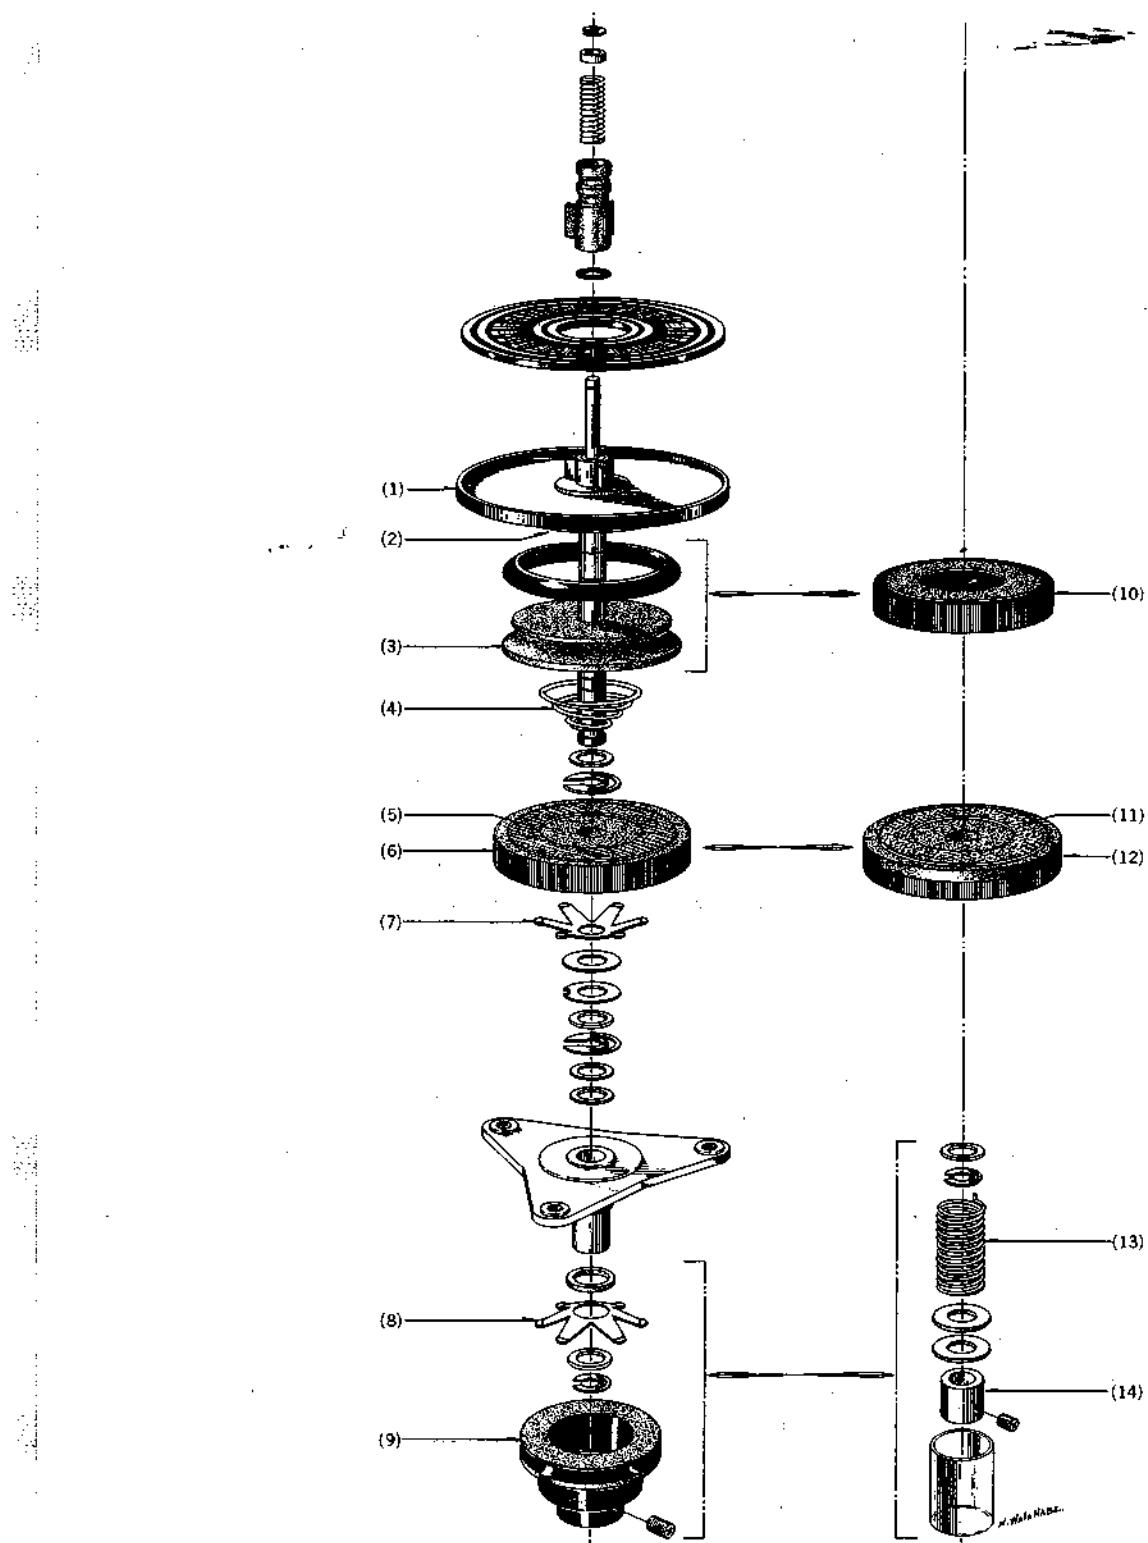

Fig. 10
2. SUPPLY REEL TABLE TENSION ADJUSTMENT (See Fig. 10 at left)
- At rewind mode, the tension of felt (2) part shown in Fig. 10 should be from 400 to 500 grams when the tape is gently pulled upward with a spring gauge. If adjustment is necessary, this can be accomplished by increasing or decreasing the number of washers used.
- Felt (5) is for the purpose of applying suitable clutch (back tension) at Forward and Recording modes. Measure in the same way as outlined in item (a) and adjust by strengthening or weakening the tension by increasing or decreasing the number of washers respectively to obtain 80 to 100 grams of tension.
- At Fast Forward mode, the tension (free tension) should be 15 to 20 grams. To adjust, strengthen or weaken tension by increasing or decreasing the number of washers and by moving Pulley (9) up and down and tightening to fixed position with screw.
3. TAKE UP REEL TABLE TENSION ADJUSTMENT (See Fig. 10 at right)